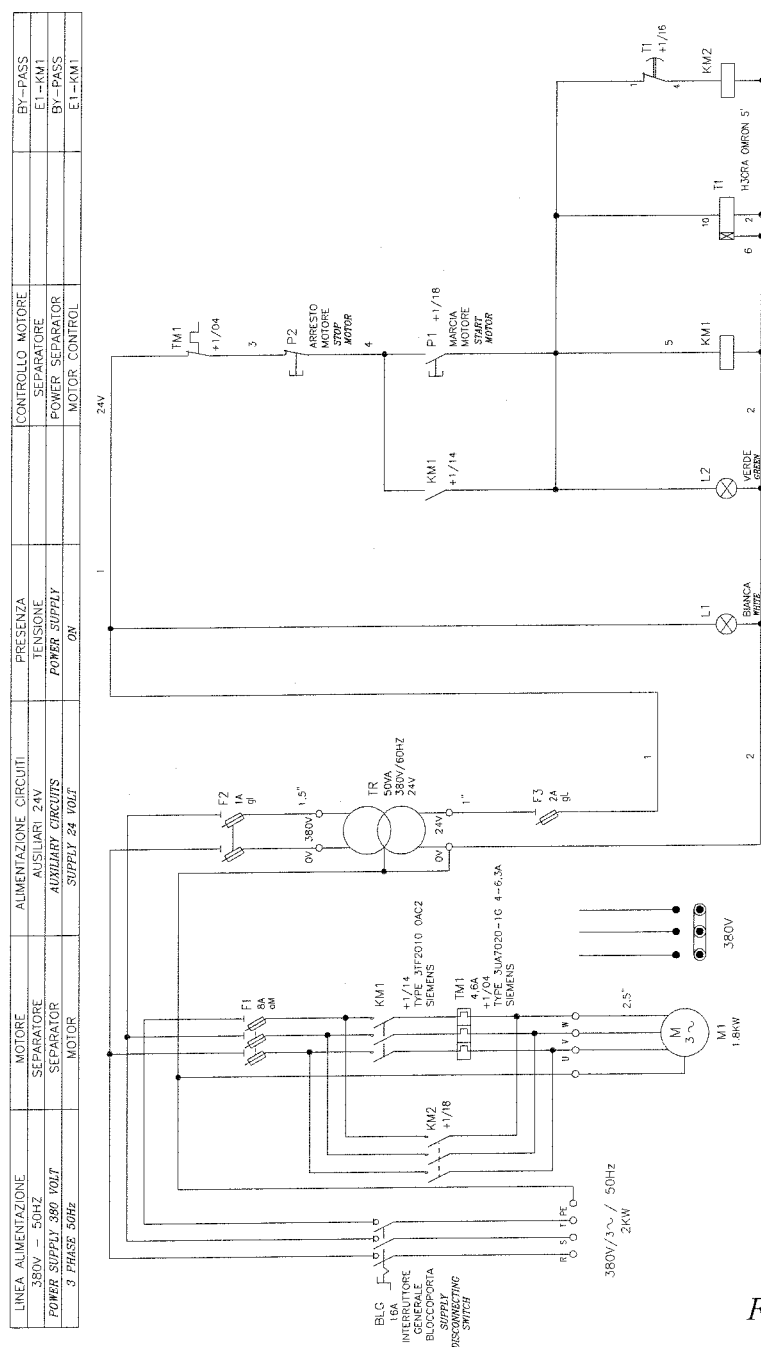

Figure 5.4
- Perform the connection of separator to electric mains with great caution, according to the connection diagram on the next page (fig. 5.4), without voltage in the mains and respecting the safety prescriptions and local regulations. It's absolutely forbidden the mains connection without grounding.